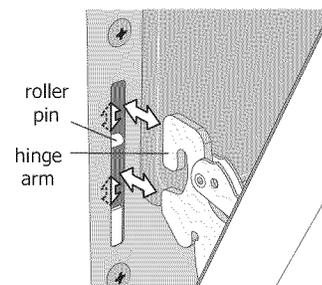

Figure 24: Replacement and location of hinge arm and roller pin
5. Lift the oven door hinge arms over the roller pins located on each side of the oven frame (See Figure 24).
2. Holding the oven door at the same angle as the removal position, seat the hook of the hinge arm over the roller pins located on each side of the oven door frame (See Figure 24). The hook of the hinge arms must be fully seated onto the roller pins.